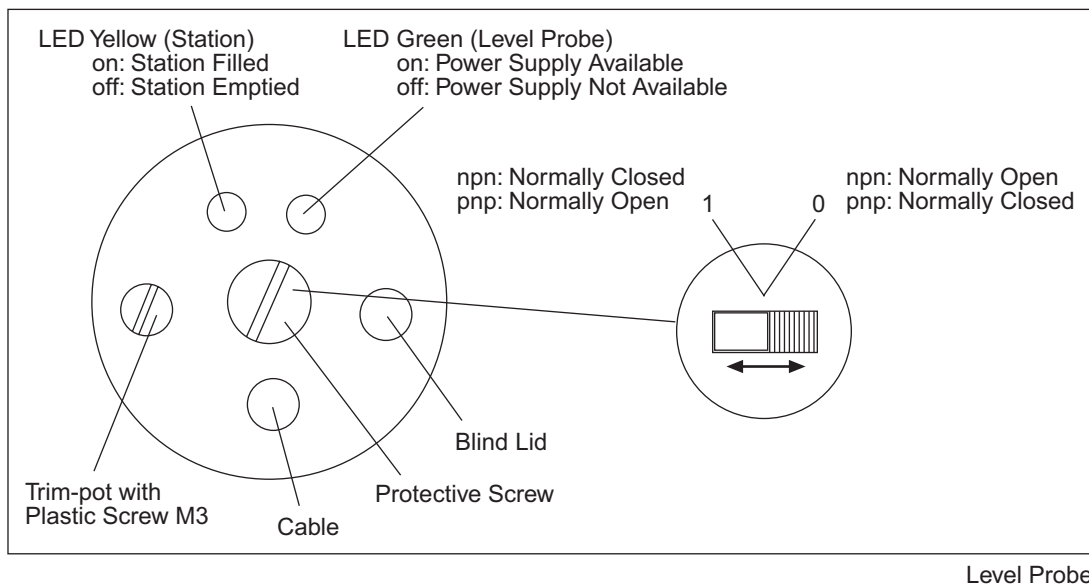

Figure 7. Level Sensor Screw
3. Remove the small plastic screw (M3) on the back of the level sensor (see Figure 7).